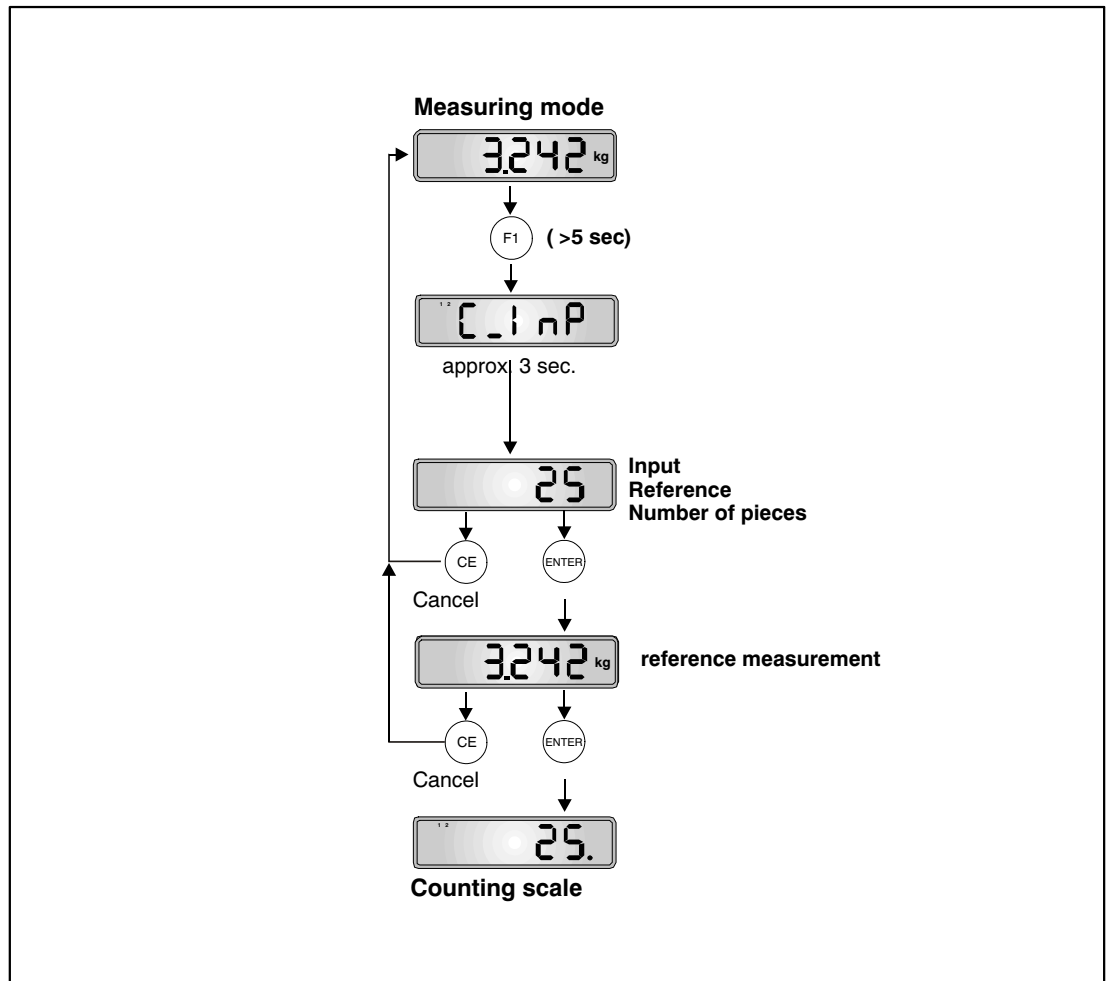

Fig. 14.1: Setting the counter scale (reference measurement)
3. Operate the machine accordingly Fig. 14.1. (The reference number of pieces is input in the same way as described in Chapter 8.4.2 (page 37), numeric input.) Numeric input is concluded with "ENTER" and the reference measurement is displayed (= weight of the parts put on). At standstill, store the reference measurement with the "ENTER" key and the device then goes to counting scale mode.